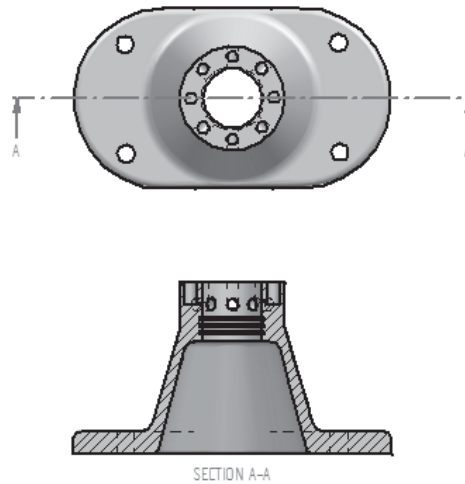

Figure 11-12 Shaded top view and the front section view
7. Select the cutting plane and place the section drawing view at the desired location in the drawing sheet. A simple section view is shown in Figure 11-12.